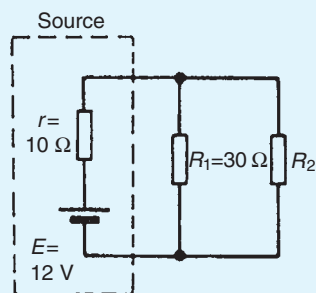

Figure 13.94
10. For the circuit shown in Fig. 13.94, maximum power transfer from the source is required. For this to be so, which of the following statements is true?